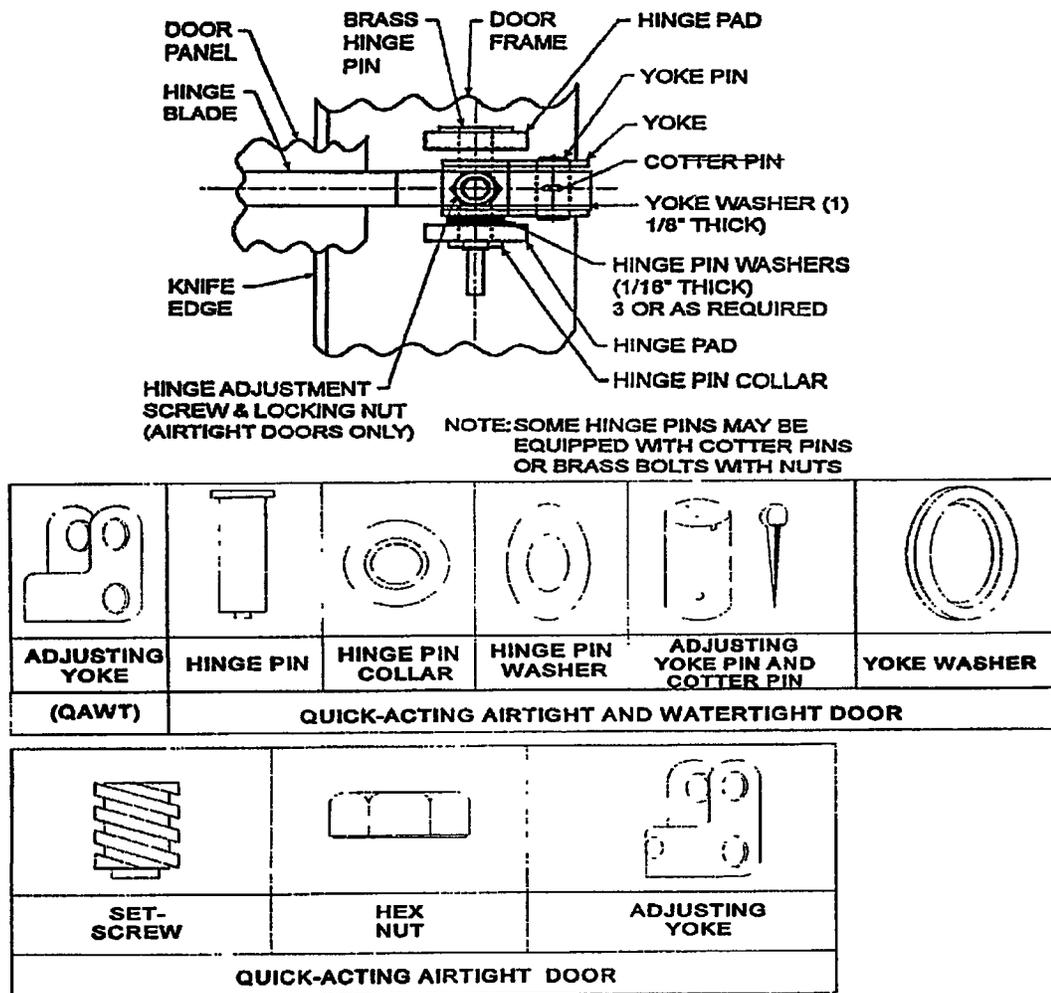

Figure 600-2.70. Watertight Door Hinge Components (For Doors Without MACHALT 167-31006 (ECP-518) or MACHALT 167-31011 (ECP-538) Installed)
- a. With a hammer and chisel, knock the hinge pin collars off the bottom of the hinge pins. See figure 600-2.70.